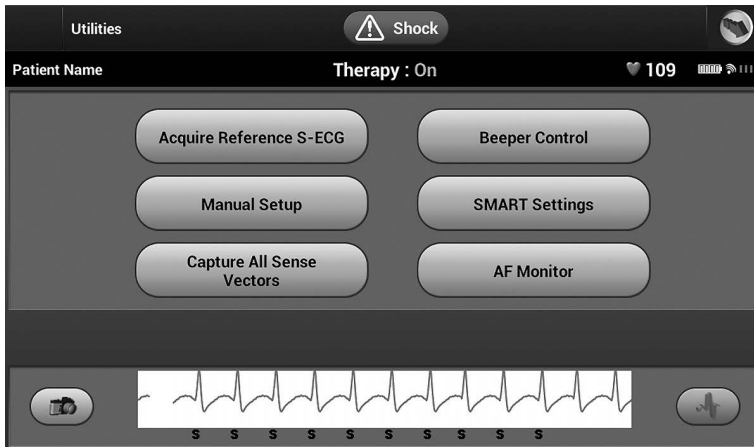

Figure 20: Utilities screen
2. The Select Episode Reports screen appears showing a list of the stored episodes (Figure 20). Select the episode(s) to be printed. A check mark appears next to the selected episode(s).
It is also possible to capture S-ECGs corresponding to all three sense vectors (Primary, Secondary, and Alternate) by using the Capture All Sense Vectors button on the Utilities screen (Figure 20 on page 49).
2. Select the Utilities button. The Utilities screen appears (Figure 20 on page 49).